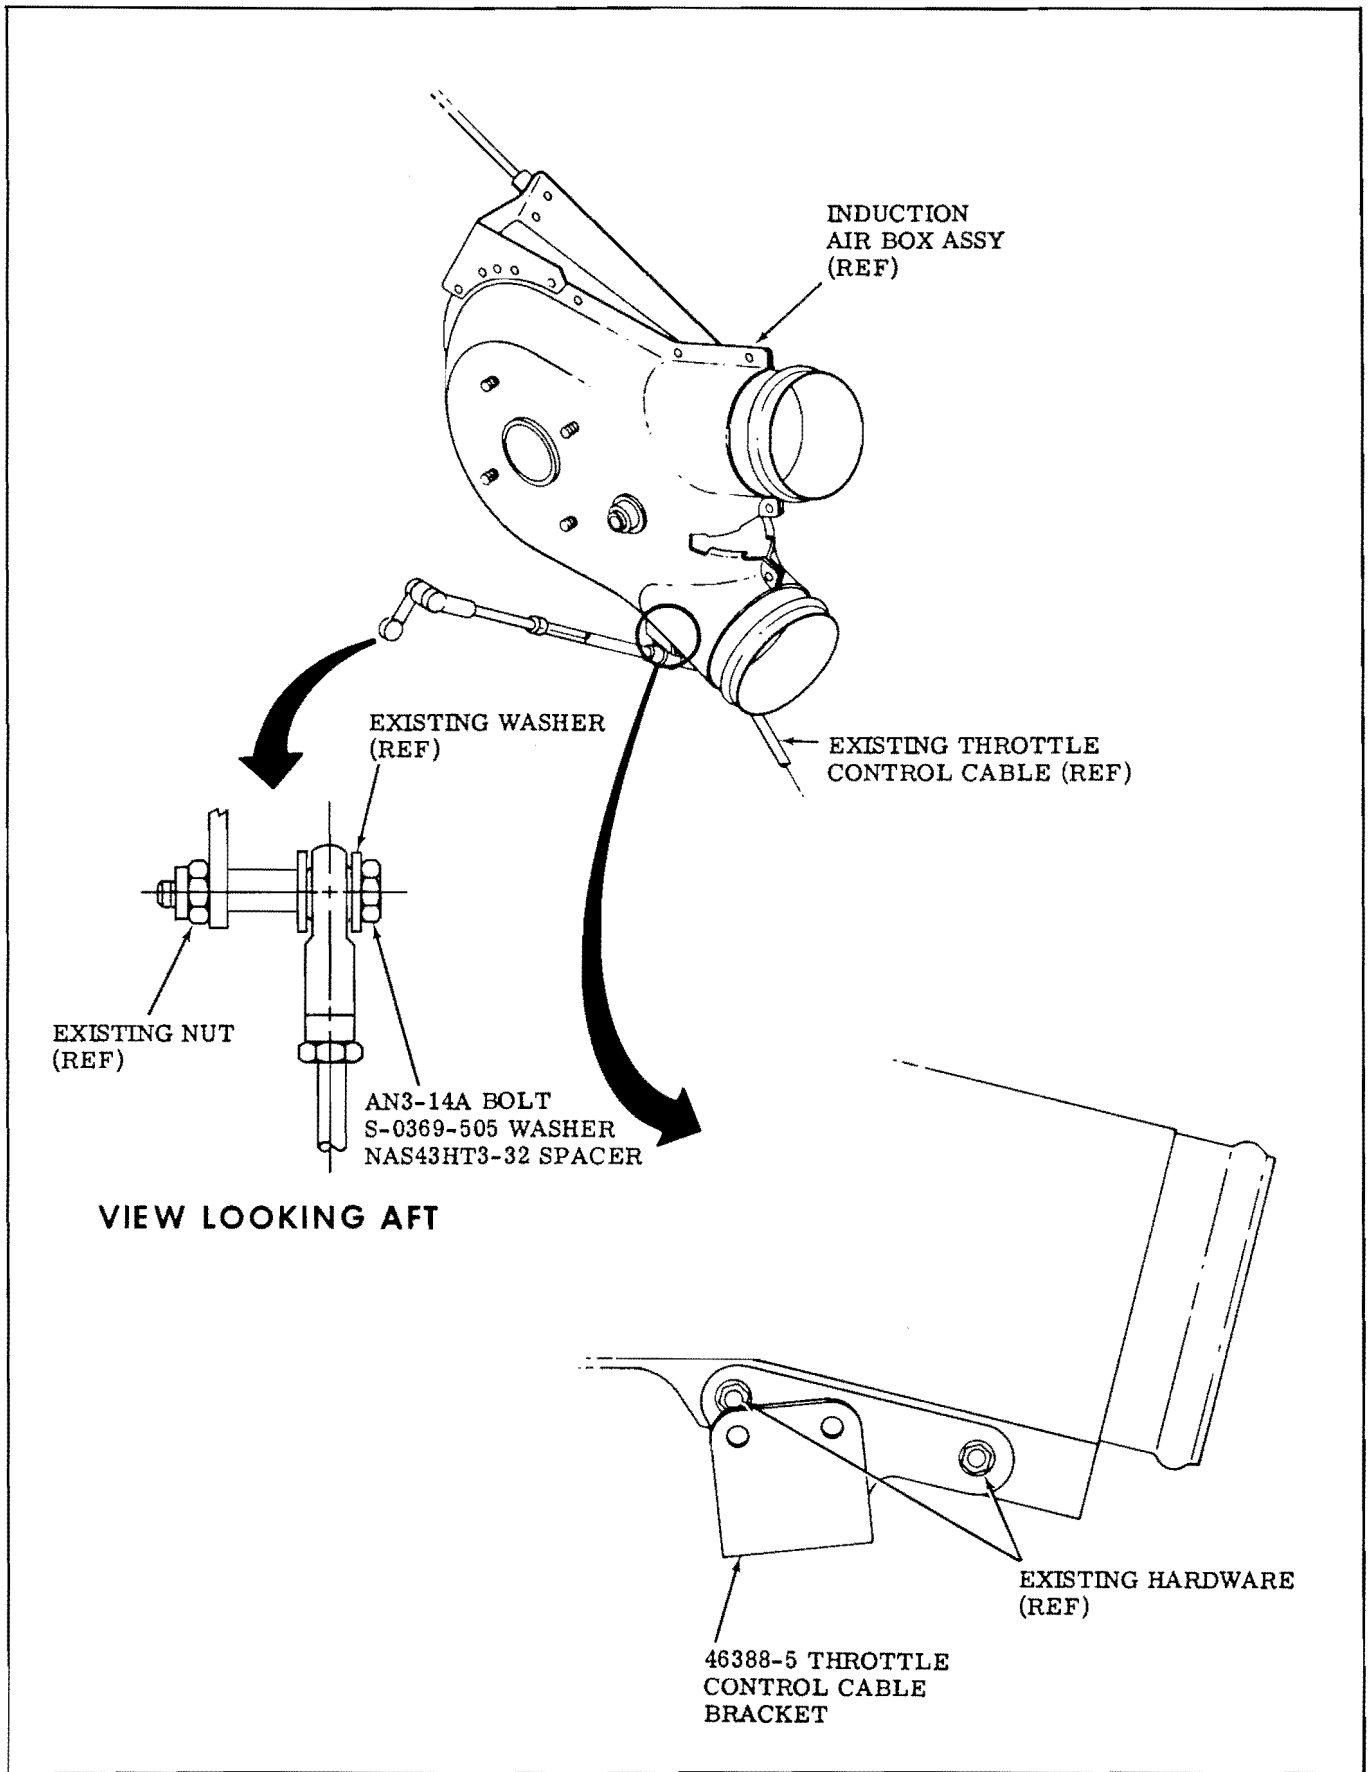

Figure 2.
3. Reconnect throttle control cable to fuel injector idle valve lever with AN3-14A bolt, S-0369-505 washer, NAS43HT3-32 spacer and existing nut (see Figure 2.).
4. Remove and discard existing throttle control cable bracket, located on induction air box, and install new 46388-5 bracket using existing hardware (see Figure 2.).